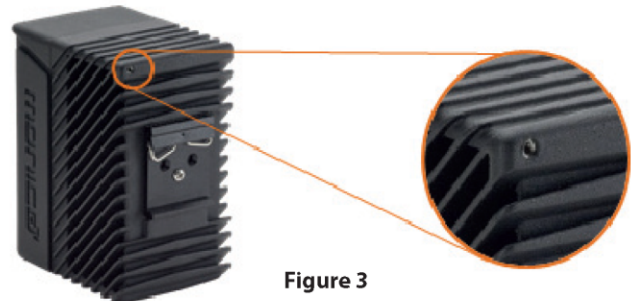

Figure 3
- Step 2: Connect the Grounding Wire to the mCore[™] SDR Grounding Lug connection point, shown below in Figure 3.